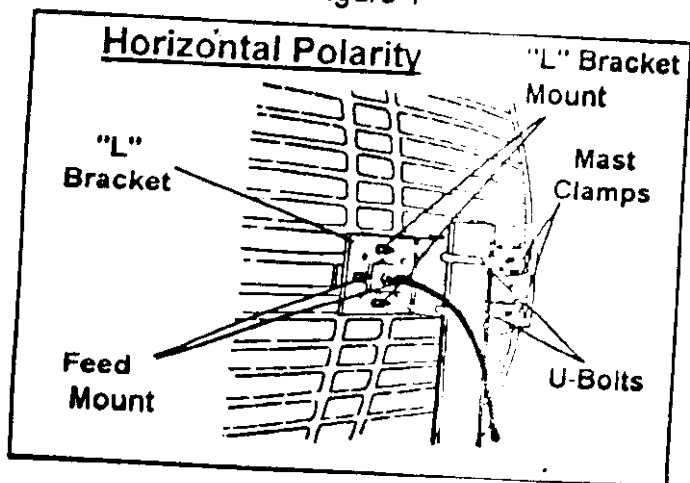

Figure 2
Refer to figure 2 and 4 for proper "L" bracket and feed alignment on backside of antenna.
7. Place the 2 mast clamps on the 2 U-Bolts (figure 2). Fasten the U-bolts on the "L" bracket with the 4 lock washers and nuts.